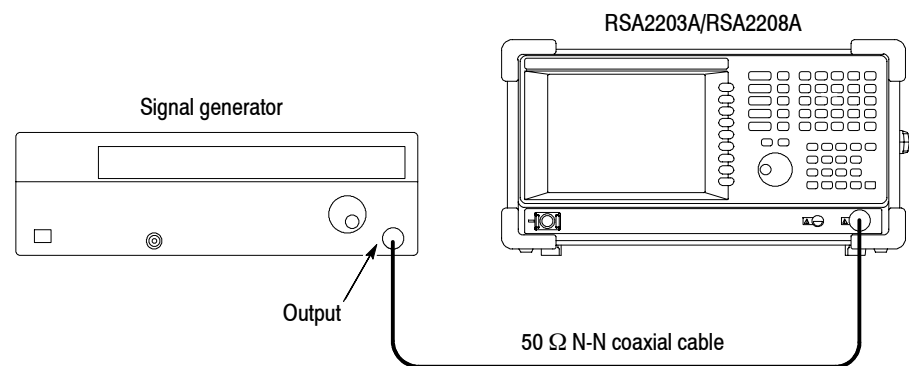

Figure 4-15: Initial test hookup
c. Hook up the signal generator: Connect the generator output through a 50 Ω N-N coaxial cable to the analyzer **INPUT**. See Figure 4-15.